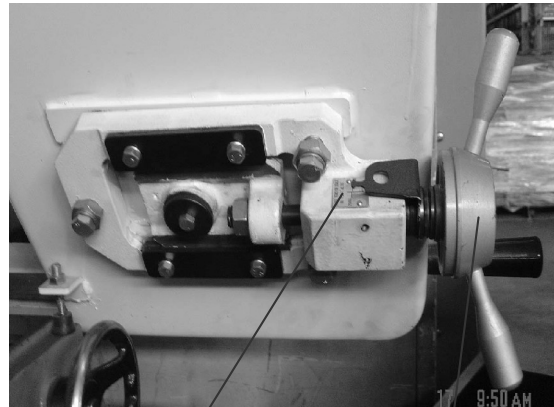

Fig. 8
To tension the blade, lift up the left wheel cover and turn the blade tension handle (A) Fig. 8, clockwise. A pointer and tension scale (B) is located underneath the wheel. The scale is graduated to indicate blade tension of 20,000, 30,000 and 35,000 pounds per square inch (psi). For carbon blades (similar to the one supplied with the machine) the blade should be tensioned at 20,000 psi. For bi-metal blades, the blade should be tensioned at 30,000 or 35,000 psi. Always release blade tension at the end of each work day to prolong blade life.